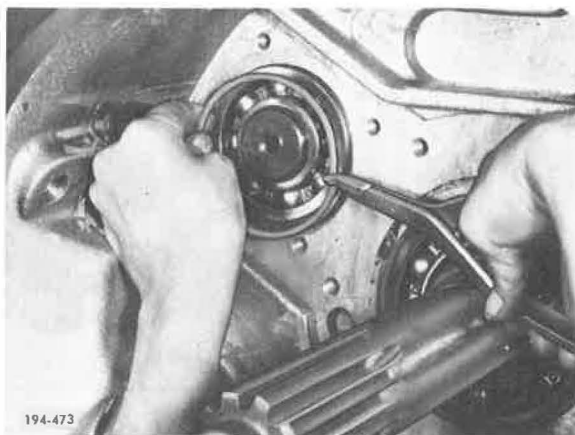

Figure 373. Installing Snap Ring
8. Install front compound countershaft front bearing positioning snap ring, using snap ring pliers J-25445, or equivalent. See Figure 373.